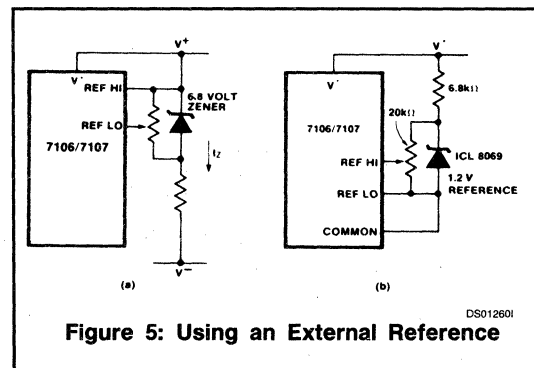

Figure 5: Using an External Reference
**NOTES:** 3. Unless otherwise noted, specifications apply to both the 7106 and 7107 at TA = 25°C, fclock = 48kHz. 7106 is tested in the circuit of Figure 4. 7107 is tested in the circuit of Figure 5.
The 7106, with its negligible dissipation, suffers from none of these problems. In either case, an external reference can easily be added, as shown in Figure 5.